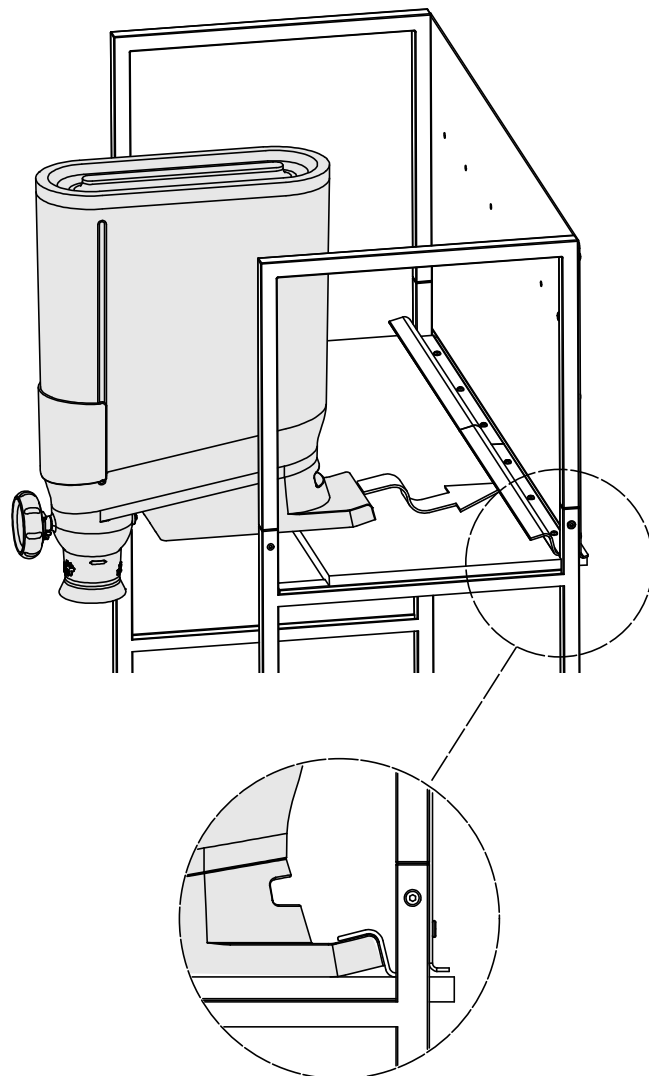

Figure 5
8. Place the Bulk Containers ① making sure the back of each Bulk Container is under the metal flange as shown in Figure 5 below.